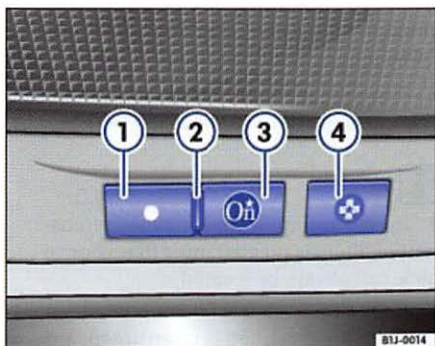

Fig. 3 OnStar services button (blue OnStar button)
- Press the blue  button ⇒ fig. 3 , and you are connected to an OnStar Advisor.